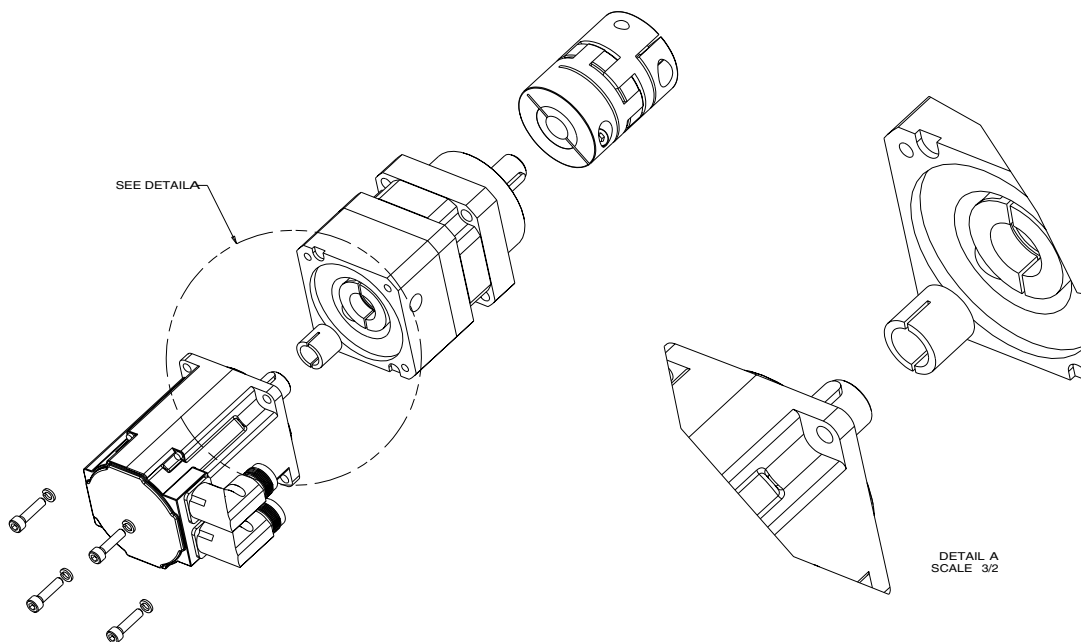

FIG. 19
2. Slide the gear head bushing into the drive coupling and align slots in drive coupling and bushing. See FIG. 19.